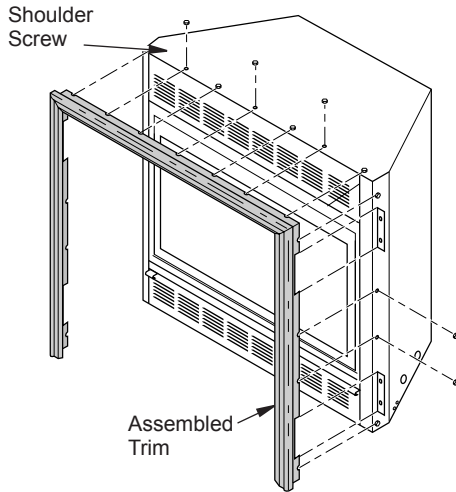

Figure 17 - Attaching Trim to Fireplace
8. Tighten trim hanging screws (#10 x 6.25 shoulder) into holes in cabinets. Place the assembled trim onto fireplace cabinet. Align hanging notches on trim with hanging screws on side of fireplace (see Figure 17, page 12). Push trim firmly into place, sliding hanging notches over hanging screws.